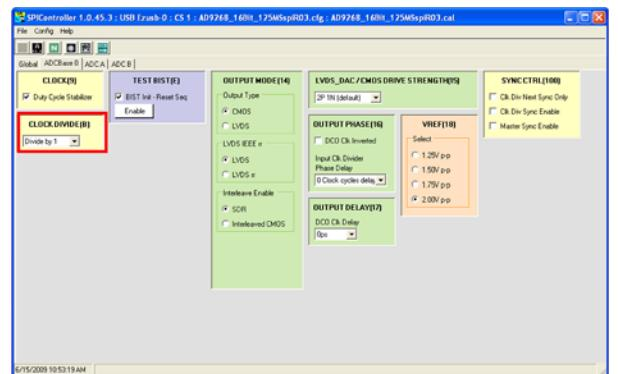
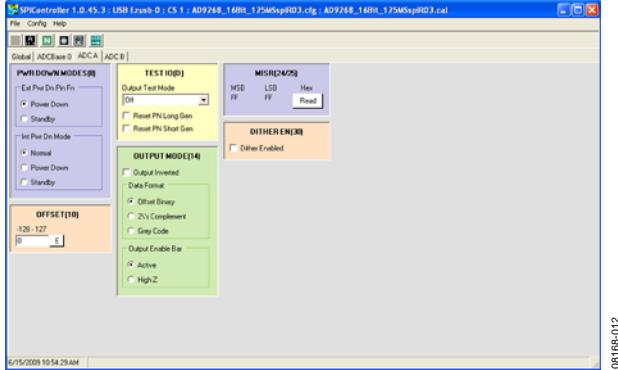

Figure 12. SPI Controller, CLOCK DIVIDE(B) Box
Figure 13. SPI Controller, Example ADC A Page
3. In the **ADCBase 0** tab of the **SPIController** window, find the **CLOCK DIVIDE(B)** box (see Figure 12). If using the clock divider, use the drop-down box to select the correct clock divide ratio, if necessary. See the appropriate part data sheet; the AN-878 Application Note, High Speed ADC SPI Control Software; and the AN-877 Application Note, Interfacing to High Speed ADCs via SPI, for additional information.
4. Note that other settings can be changed on the **ADCBase 0** page (see Figure 12) and the **ADC A** and **ADC B** pages (see Figure 13) to set up the part in the desired mode. The **ADCBase 0** page settings affect the entire part, whereas the settings on the **ADC A** and **ADC B** pages affect the selected channel only. See the appropriate part data sheet; the AN-878 Application Note, *High Speed ADC SPI Control Software*; and the AN-877 Application Note, *Interfacing to High Speed ADCs via SPI*, for additional information on the available settings.